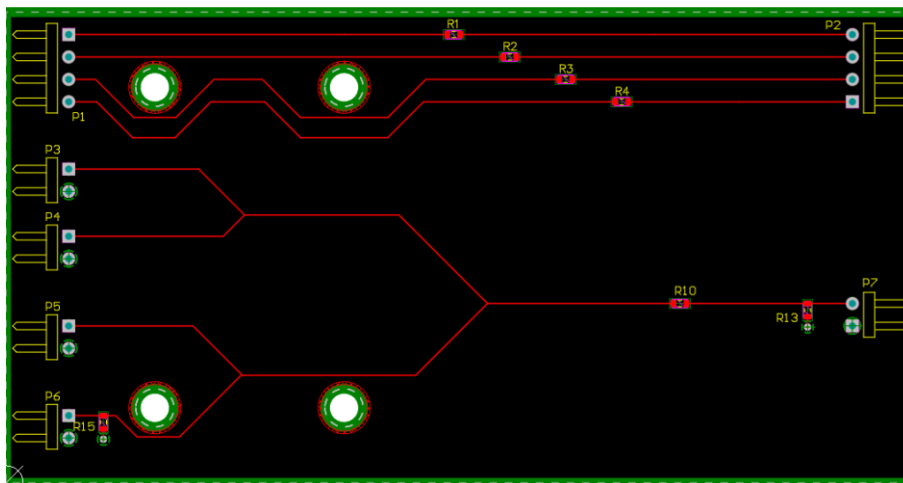

Figure 2. PCB without xSignals and Length Tuning
10. Open the Using xSignals in a High-Speed Design with CM.PcbDoc PCB document. The component placement and routing are already complemented, Figure 2